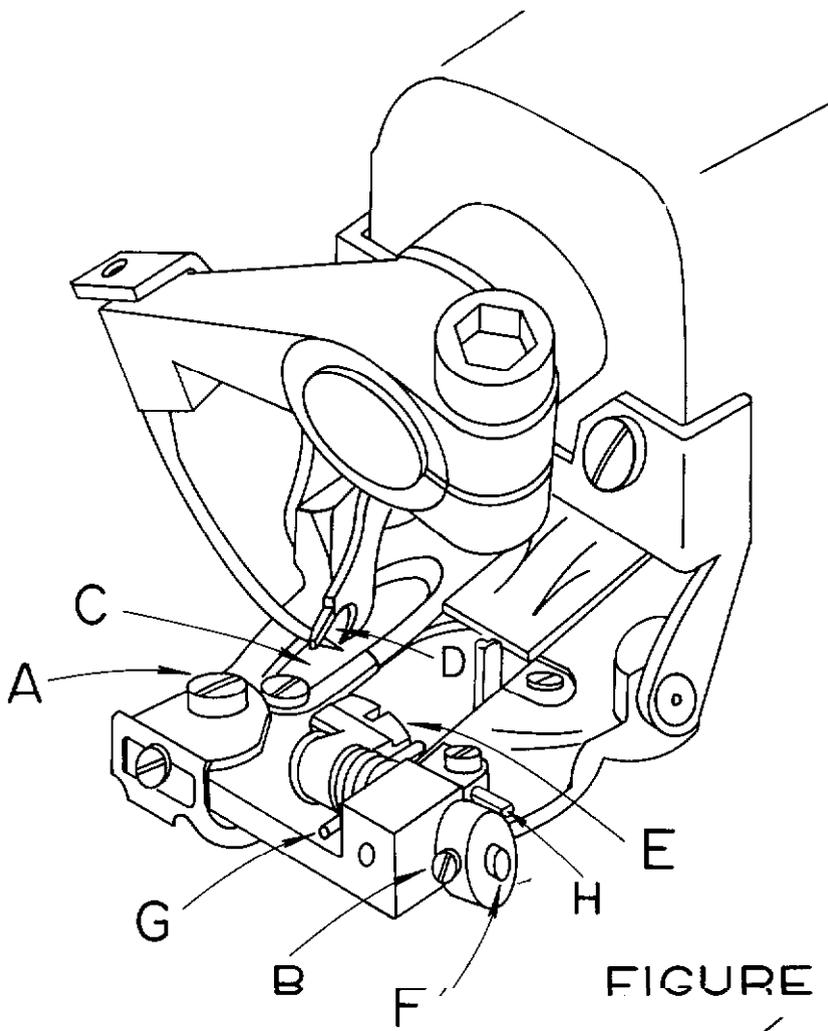

FIGURE 8
6. Once the looper is timed with respect to the needle as outlined in paragraphs 2 thru 5 above, slowly **turn** the handwheel in a direction away from the operator, until the looper approaches the edge of the looper slot. (Point “C” in Figure 8) in the presserfoot. At this point make sure the small prong of the looper clears this edge. If it does not clear, adjust the eccentric block as outlined in paragraph 5 until the interference is eliminated.
7. Continue turning the handwheel away from the operator until the point of the needle starts to enter the area in between the looper prongs. (Refer to Point “D” in Figure 8). If the needle strikes the crotch of the looper, the looper has generally been set too far forward. Check to see if the looper has been inserted into the clamp as far as it will go. It should be inserted until the shoulder on the looper is stopped on the clamp. If this check is satisfactory, recheck the distance from the center of the looper rod fork pin to the rear face of the looper rod ball. Refer to paragraph 4 and reset if necessary. If neither of the above two measures corrects the problem, it is possible that the needle lever **may** be set too low and required adjustment.
1. The shoe, (item "E" in Figure 8), also known as a cloth retainer, normally will not require replacement. However, in the event of wear due to the particular fabrics being used, or if the shoe or spring suffers any damage, they may be readily replaced.
2. The first step is to remove the complete front guide assembly by unscrewing the front guide holder attaching screw (item "A" in Figure 8). Next loosen the shoe pin and the shoe eccentric barrel lock screws, (item "B" Figure 8), and slide out the shoe pin (item "F"), shoe and retaining spring (item "G"). Before removing these components it is advisable to note the manner in which the spring is assembled so that it may be reinstalled in the same way.
3. When replacing an old shoe, make sure that the replacement shoe properly fits the pin without binding and without excessive looseness. In the event that the pin has worn and does not fit the new shoe properly, it should be replaced at the same time as the shoe-pin. After replacing the shoe, shoe pin spring into shoe eccentric barrel, retighten screws (item "B" Figure 8), and check to insure that the center of the shoe is lined up with the center of the rib. Also insure that the shoe clears both sides of the opening of the presserfoot.
4. In and out position of shoe should now be checked. For light fabrics, shoe should be as close to needle as possible. For heavy fabrics with seam, shoe should be set back as far as possible from needle. To move shoe in and out turn eccentric barrel (item "I" Figure 8). After the correct location is established, be sure to tighten screws, (item "B" Figure 8).
- 4A. An additional shoe adjustment is also possible. The height of the shoe can now be controlled, (item "H" in Figure 8). This is a tapered pin and position can be adjusted so that the shoe, whenever required, can be controlled as far as elevation is concerned. By moving the tapered pin in or out the shoe can be kept from pressing down on some fabrics which require little, if any shoe pressure. By having this control, it sometimes will aid in penetration of difficult fabrics. The normal position of the shoe, when set properly on most fabrics, is that the shoe will show movement on the penetration cycle on one ply of fabric.